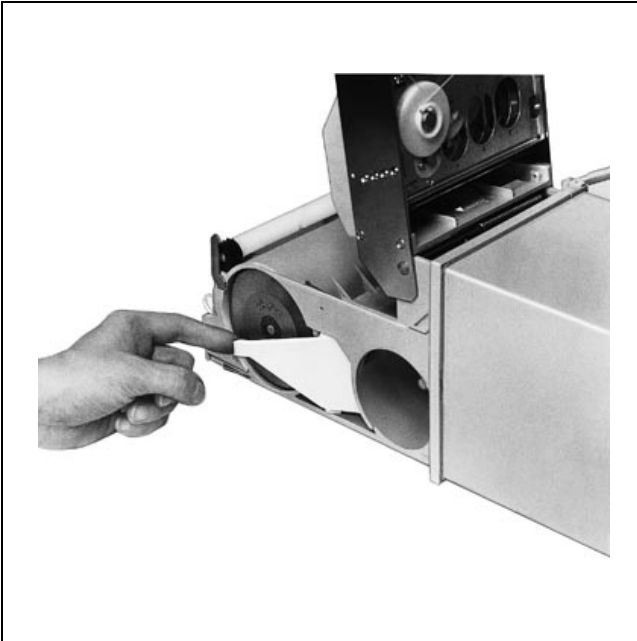

Fig. 15 Opening the chart roll holder
3. Swing open the chart roll holder to the limit (see fig. 15).